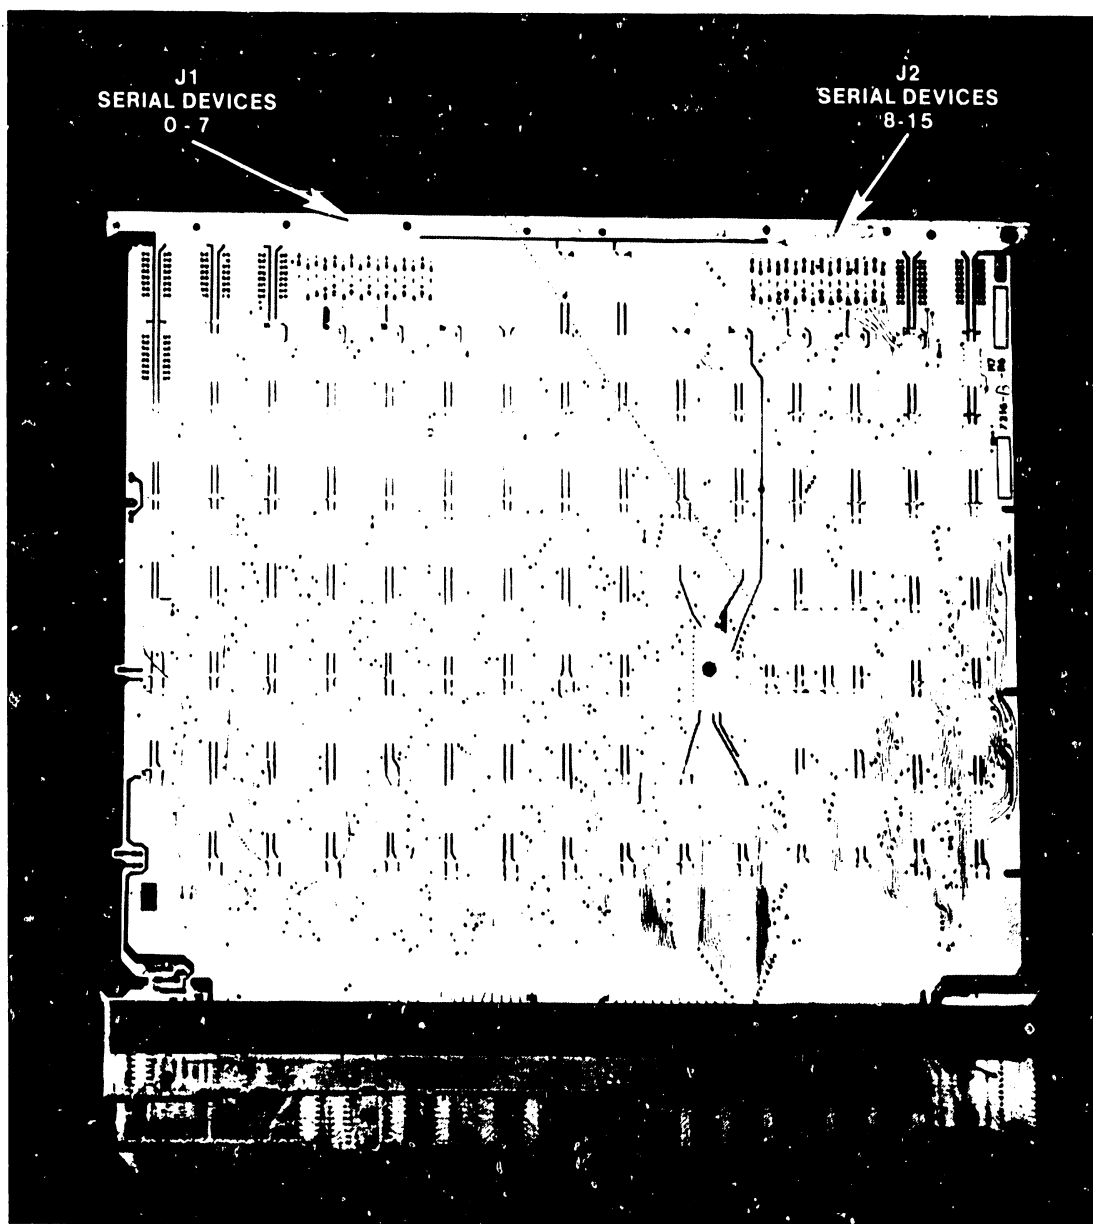

Figure 5-26. 22V27-2 16-Port Serial IOP
1. Remove all connectors from the top of the 22V27-2 16-Port Serial Device IOP assembly (figure 5-26) in IOP slot #2 of the Motherboard (for the first 16 serial devices) or IOP slot #3 (for the 2nd 16 serial devices). Note the position of all connectors for later reassembly. (Workstation 0 must be connected to Port #0 of IOP slot #2. This is a microcode convention and MUST be adhered to.)